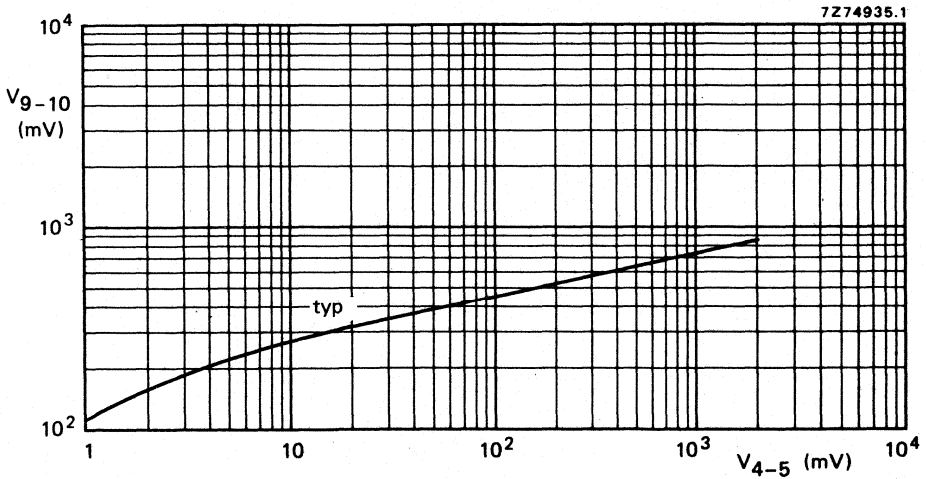

Fig. 8 Automatic level control; for circuitry see Fig. 9;  $f = 1$  kHz.
**Automatic level control (see Fig. 8)**